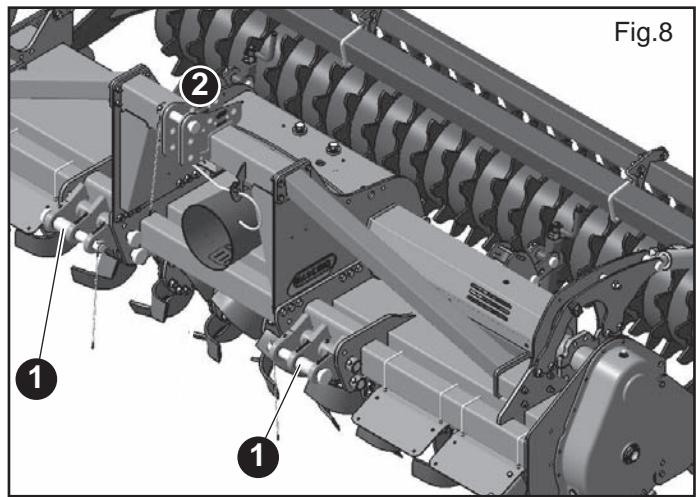
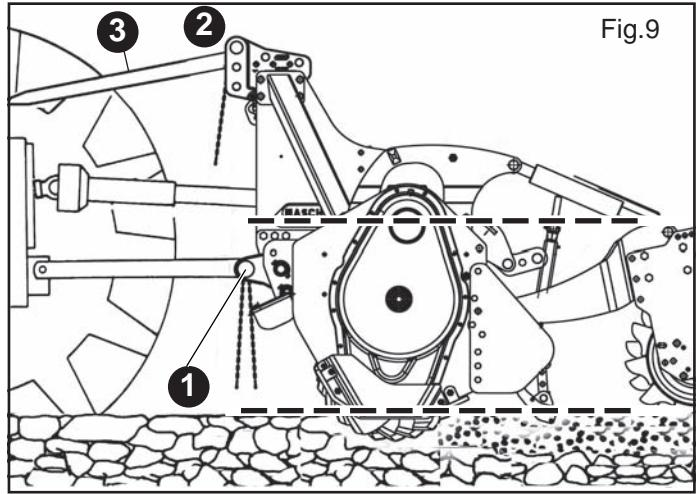

Fig.8
Fig.9
- 1) Hook the lifter bars onto the pins provided (1, Fig.8, Fig.9). Block with the snap split pins. Hook the chains to the lifting bars.
- 2) Connect the third upper point (2, Fig.9); the pin will be blocked with the appropriate split pin; use the adjusting tierod (3, Fig. 8) to keep the machine perpendicular to the ground (Fig.9).